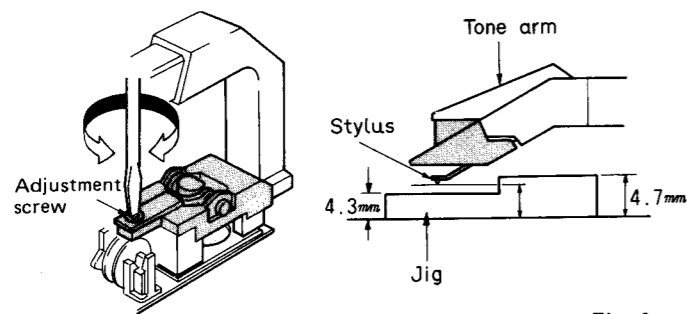

Fig. 1
- 1) Place a service jig on the external circumference of the rubber sheet and turn the adjustment screw to adjust so that the stylus height is at the position shown in the diagram. (Refer to Fig. 1)